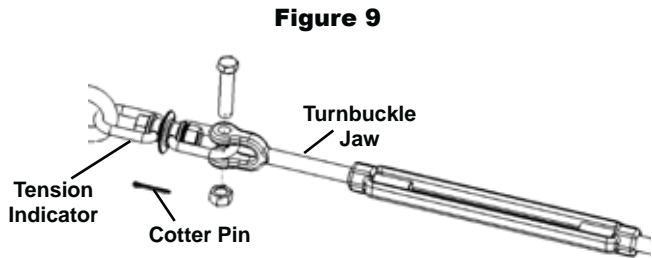

Figure 9
C. Tension Indicator to Turnbuckle *(see Figure 9)*